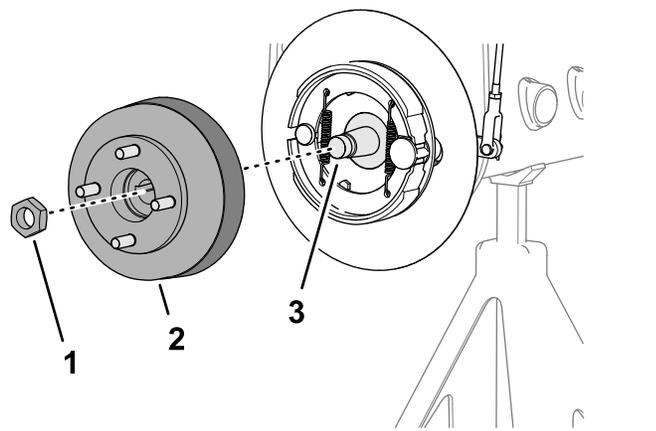
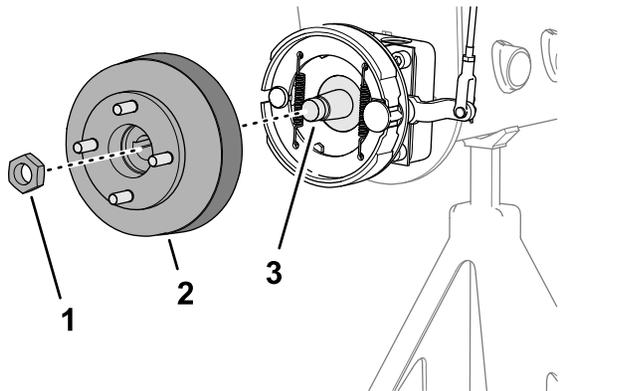

Figure 78
Figure 77
1. Remove the locknut that secures the hub to the wheel-motor shaft (Figure 77 or Figure 78).